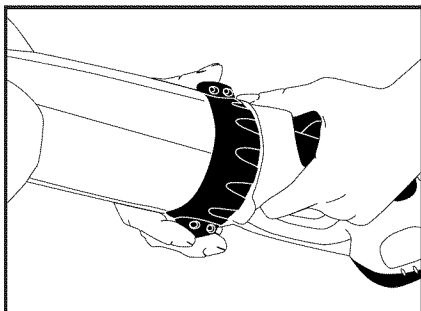

Figure 4
1. Grasp the tool attachment firmly with one hand (note, do not grasp on a rotating part such as the auxiliary handle), and twist the lock ring on the power handle to the unlocked position with the other hand. (see figure 4)